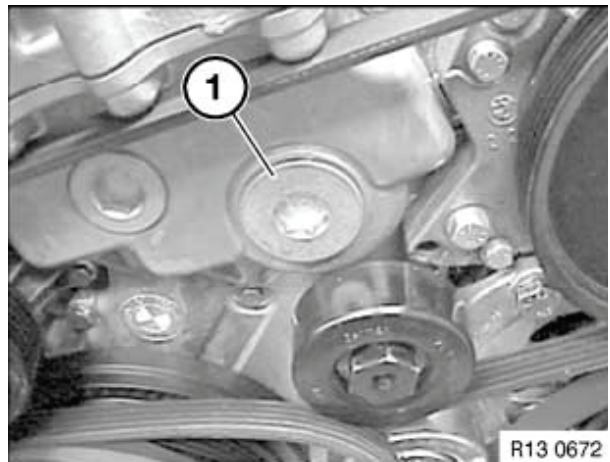

Figure 6-34
- Install new O-ring on plug (**Figure 6-34, (1)**). Apply a light coat of oil to O-ring and install plug. Tighten to: